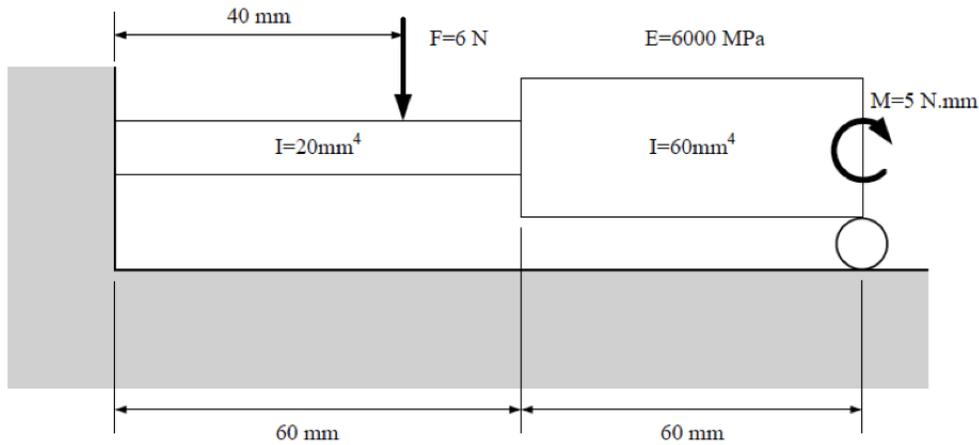
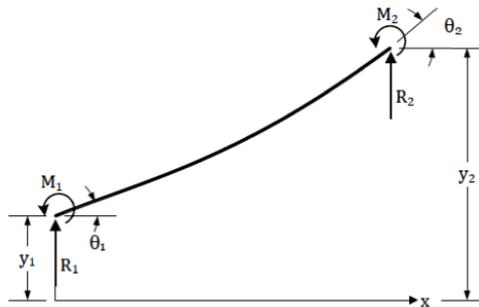

Figure 1: An indeterminate beam
Figure 2: Finite Element equation for a beam element
1. Figure 1 is an indeterminate beam with supports at A and D, the load at B and moment at D. The beam has the moment of inertia of 20 mm^4 and 60 mm^4 as shown in the figure. Answer the following questions, use the equations and diagram as shown in Figure 2 as a guideline to answer the question.
- State 3 assumptions used in applying Finite Element method in Figure 1 (2 marks)
- Sketch a diagram as a Finite Element model of Figure 1 (1 mark)